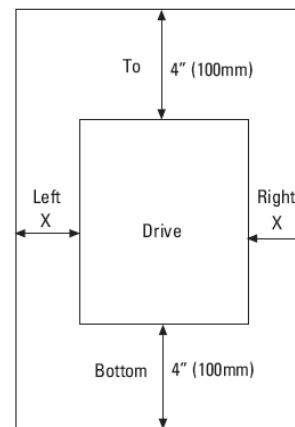

Fig. 2-2-1
3. As heat is generated during inverter operation, the spaces shown in Fig. 2-2-1 are required to ensure sufficient cooling. Since heat radiates upward, do not install the product beneath heat sensitive equipment.